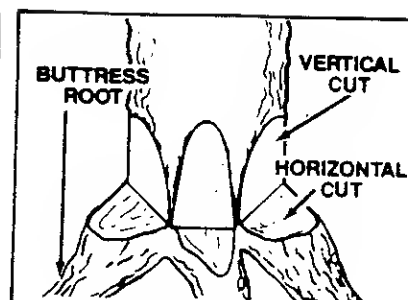

Figure 20
**NOTE:** If the tree has large buttress roots, remove before making the notch. Cut into the buttresses vertically, then horizontally. Figure 20.